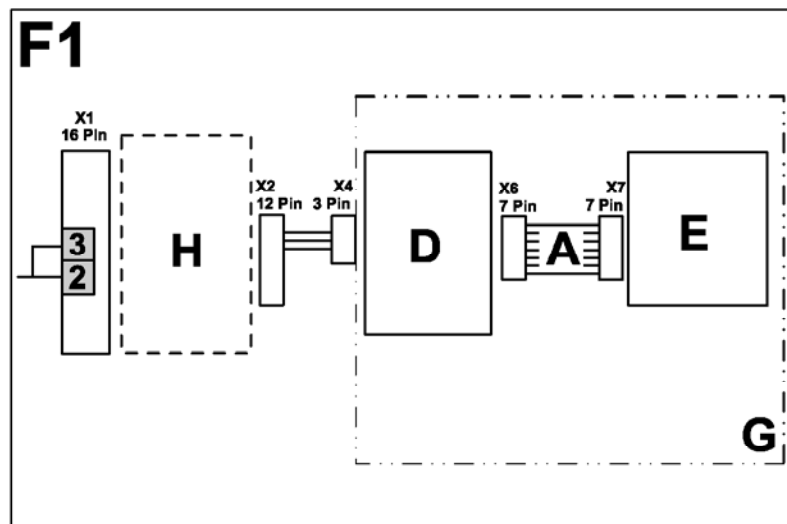

Figure 4
1.1 Block diagram up to model year 2006 ⇒ *Figure 4-F1-*.